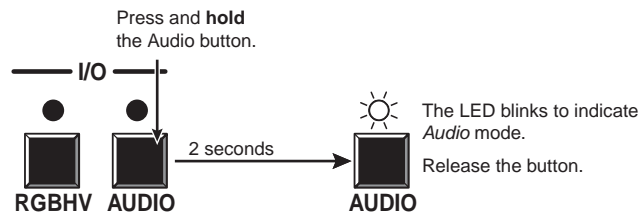

Figure 3-43 — Select Audio mode
2. Press and **hold** the Audio button for approximately 2 seconds until the Audio LED blinks (figure 3-43).